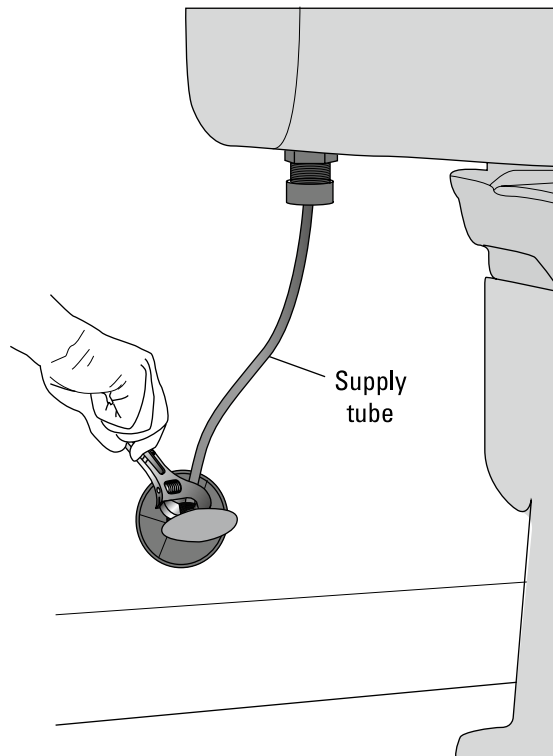

FIGURE 8-5:
1. **Turn off the shut-off valve to the toilet. (See Figure 8-5.)**